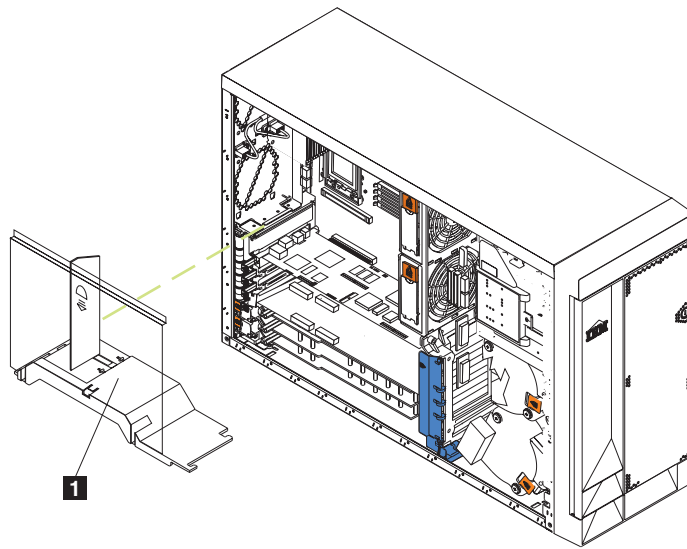
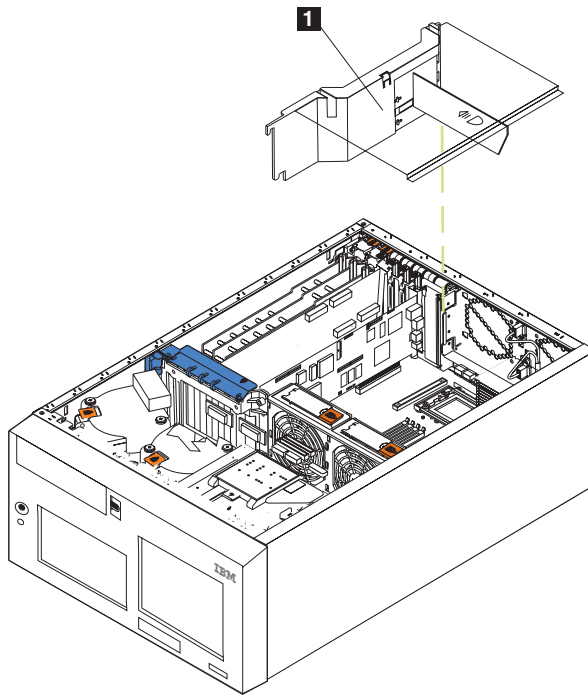

Figure 38. Removing the air-baffle assembly (Model 25T)
Figure 39. Removing the air-baffle assembly (Model 25T with the rack-mount conversion feature)
3. See Figure 38 or Figure 39 on page 102 and slide the air-baffle assembly out of the guides; then, remove it from the engine.